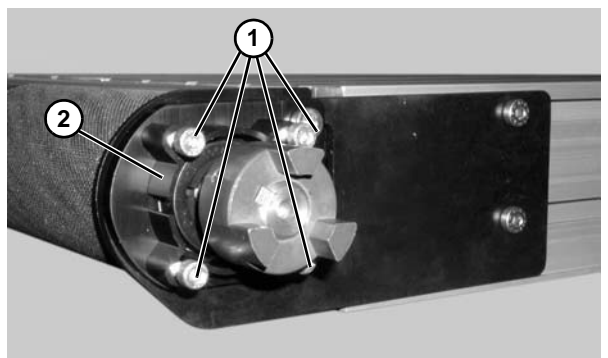

Figure 85
- d. Remove the four (4) lock screws (**Figure 85, item 1**) and the short side drive guard (**Figure 85, item 2**).